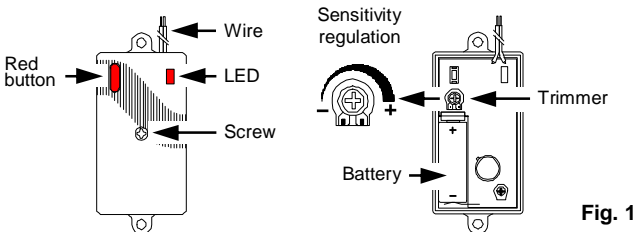

Fig. 1
- Replace the battery, making sure the correct polarity (see Fig. 1).
When the control panel is ready, the **MG-3P** must transmit an alarm signal by pressing the red button located on the front of the **MG-3P** (see Fig. 1).
To allow that a rolling shutter contact or inertial switch becomes wireless, it is necessary to regulate the sensitivity of the **MG-3P** by increasing or reducing the sensitivity with the trimmer shown in Fig. 1.